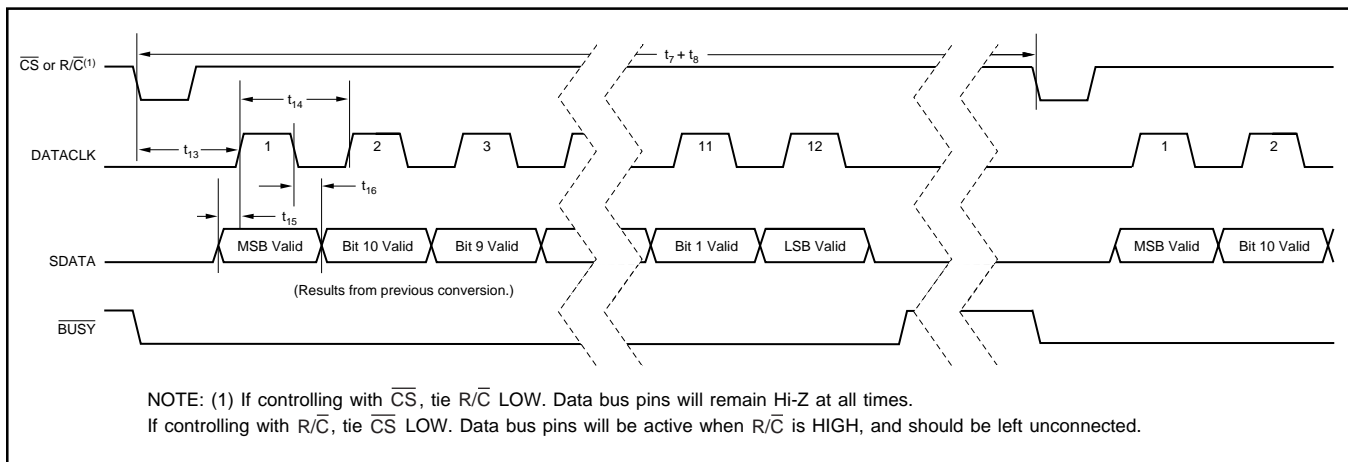

FIGURE 4. Serial Data Timing Using Internal Data Clock (TAG tied LOW).
NOTE: (1) See Figures 4, 5, and 6 for constraints on data valid from conversion 'n - 1'.
To use the internal data clock, tie $\text{EXT}/\overline{\text{INT}}$ (pin 8) LOW. The combination of R/\overline{C} (pin 22) and $\overline{\text{CS}}$ (pin 23) LOW will initiate conversion 'n' and activate the internal data clock (typically a 900kHz clock rate). The ADS7806 will output 12 bits of valid data, MSB first, from conversion 'n - 1' on SDATA (pin 19), synchronized to 12 clock pulses output on DATACLK (pin 18). The data will be valid on both the rising and falling edges of the internal data clock. The rising edge of $\overline{\text{BUSY}}$ (pin 24) can be used to latch the data. After the 12th clock pulse, DATACLK will remain LOW until the next conversion is initiated, while SDATA will go to whatever logic level was input on TAG (pin 20) during the first clock pulse. Refer to Table VI and Figure 4.